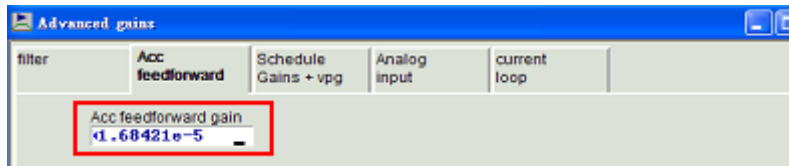

Figure 5-29 Acc feedforward gain
Step7. Input the result in step6 into Acc feedforward gain as shown in Figure 5-29.